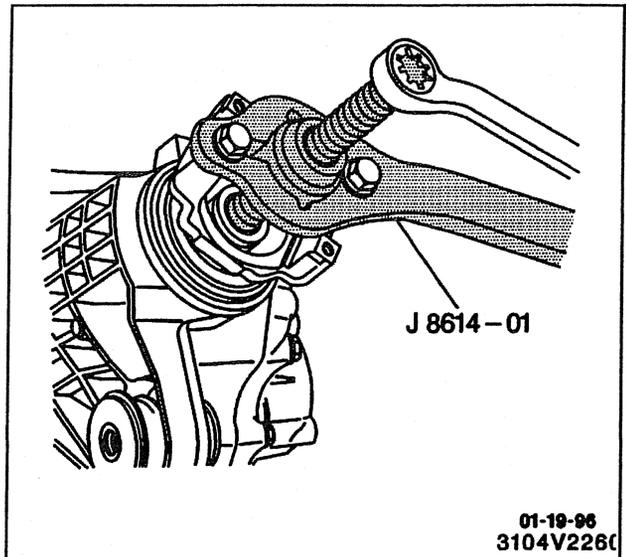

Figure 17—Removing/Installing the Pinion Flange
3. Flange using J 8614-01 (Figure 17).
### ↔ Install or Connect (Figures 17 and 18)
3. Flange onto the pinion using J 8614-01 (Figure 17).